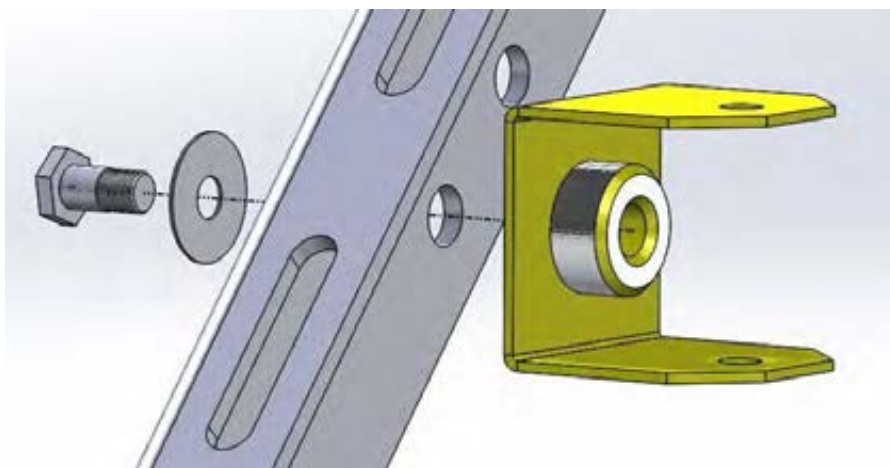

Figure 10. Exploded view of C-bracket installation inside of mounting rail
9. Attach the C-brackets to the inside face of the mounting rails using a 1/4-20 x 3/4" hex bolt and washer through one of the center holes as shown in **Figure 10**. Tighten the bolt securely so that the C-bracket flanges are level and with the flanges of the lower bucket bracket.